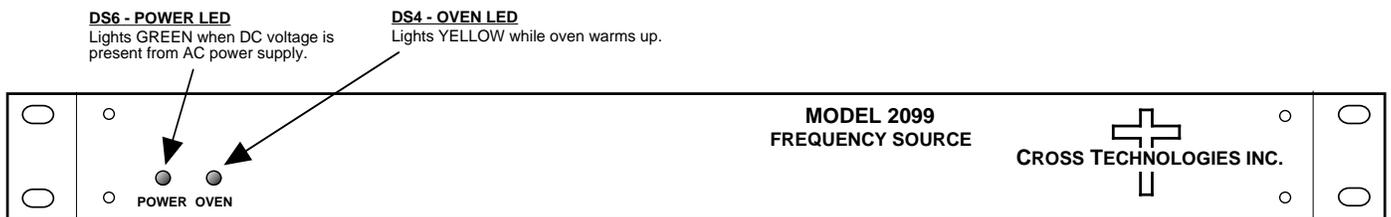

FIGURE 2.2 2099-10 Front Panel Controls and Indicators
- 3.) Be sure DS6 (green, POWER) is on (Figure 2.2).